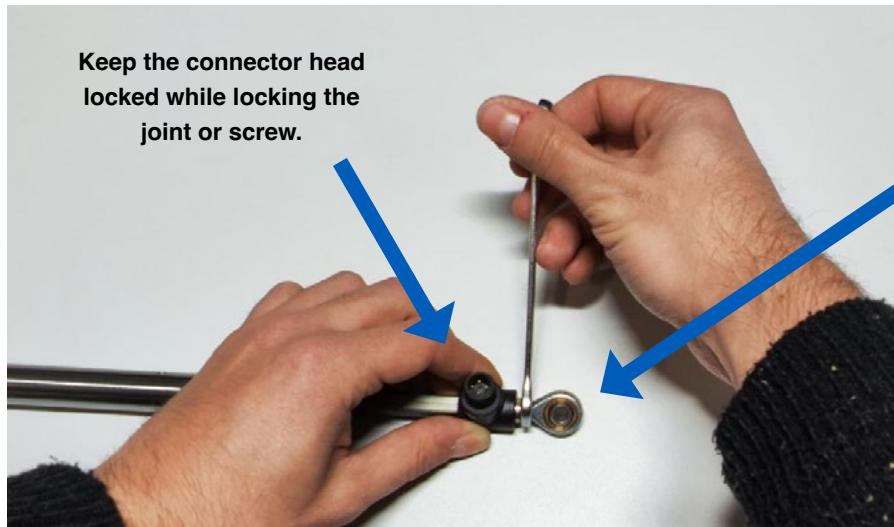

Figure 3.
- To avoid damage, tighten the fixing screws or mechanical joints while keeping the connector head or steel case blocked (see Figure 3).